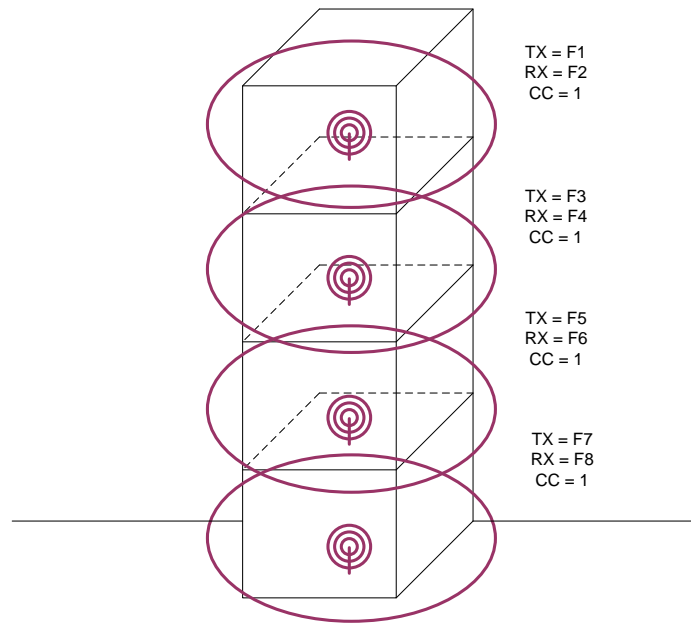

Figure 2-9 Multi-Story Coverage
4. **Multi-Story Building Coverage** – This type of coverage consists of sites that are situated extremely close to each other with short range coverage and overlap across all sites; refer to Figure 2-9. Such coverage is mostly utilized in multi-story buildings, but can be encountered in other man-made structures, such as tunnels, large vessels or underground passageways. Frequency reuse is not common due to the small coverage footprint usually implemented with in-building radiata antenna systems. Users in such RF coverage also often experience quick signal strength drop offs due to the nature of in building coverage. A radio will only be within coverage of one to two sites at a time. The time it takes a radio user to move from the coverage of one site to another is in the range of one minute.